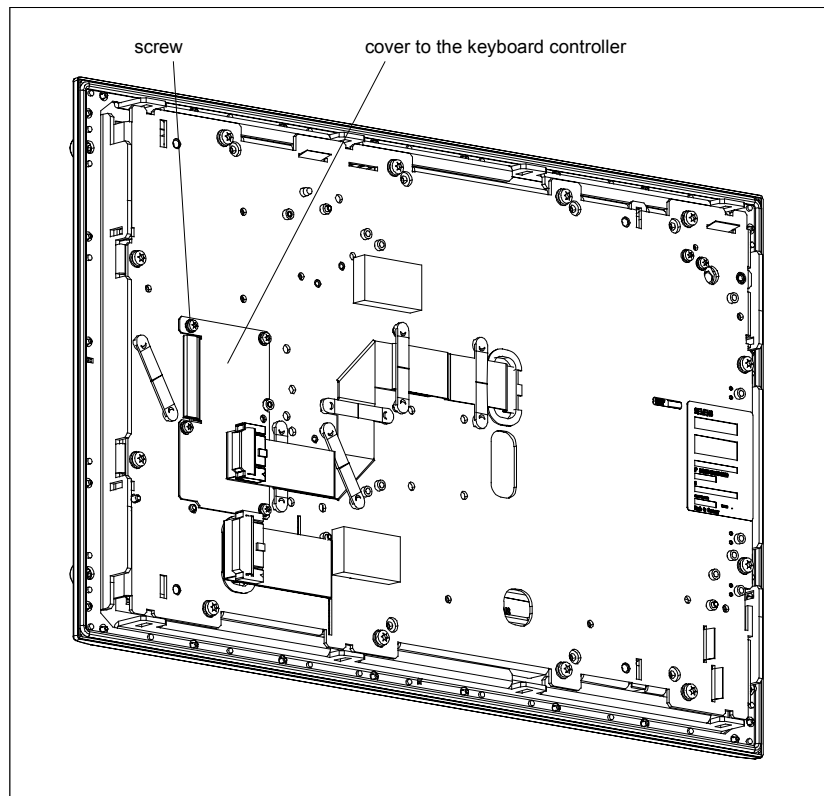

Figure 7–3 Detaching the cover to the keyboard controller
- At the back of the panel PC, remove a total of four screws from the brackets (see Figure 7–2).
The weight of the PC box can cause the hinged clasp on the PC box from the panel PC 870 to bend. Support the PC box as you swivel it out (see Figure 7–2).
- Remove the four screws on the cover to the panel PC keyboard controller (see Figure 7–3).